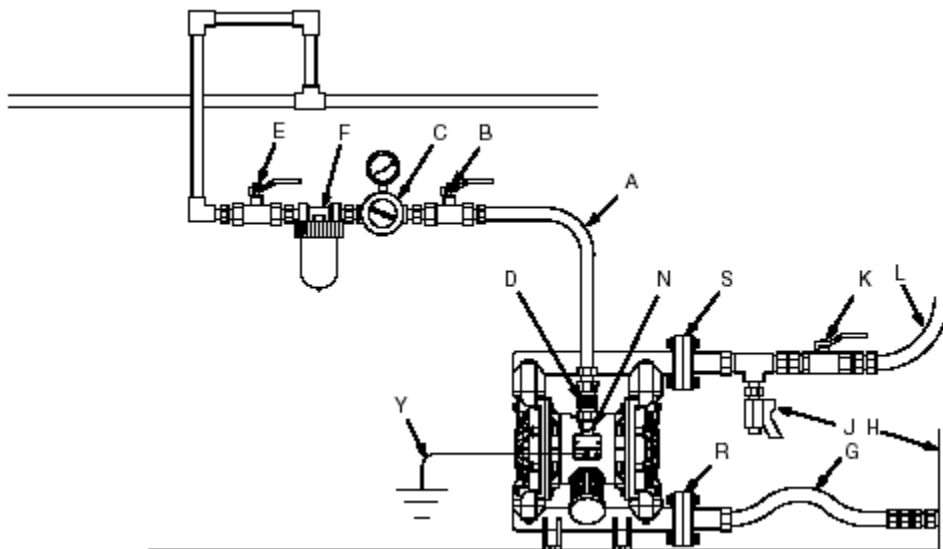

Figure 2
4. Place the end of the outlet hose (L) into an appropriate container.
5. Close the fluid drain valve. Refer to Fig. 2.